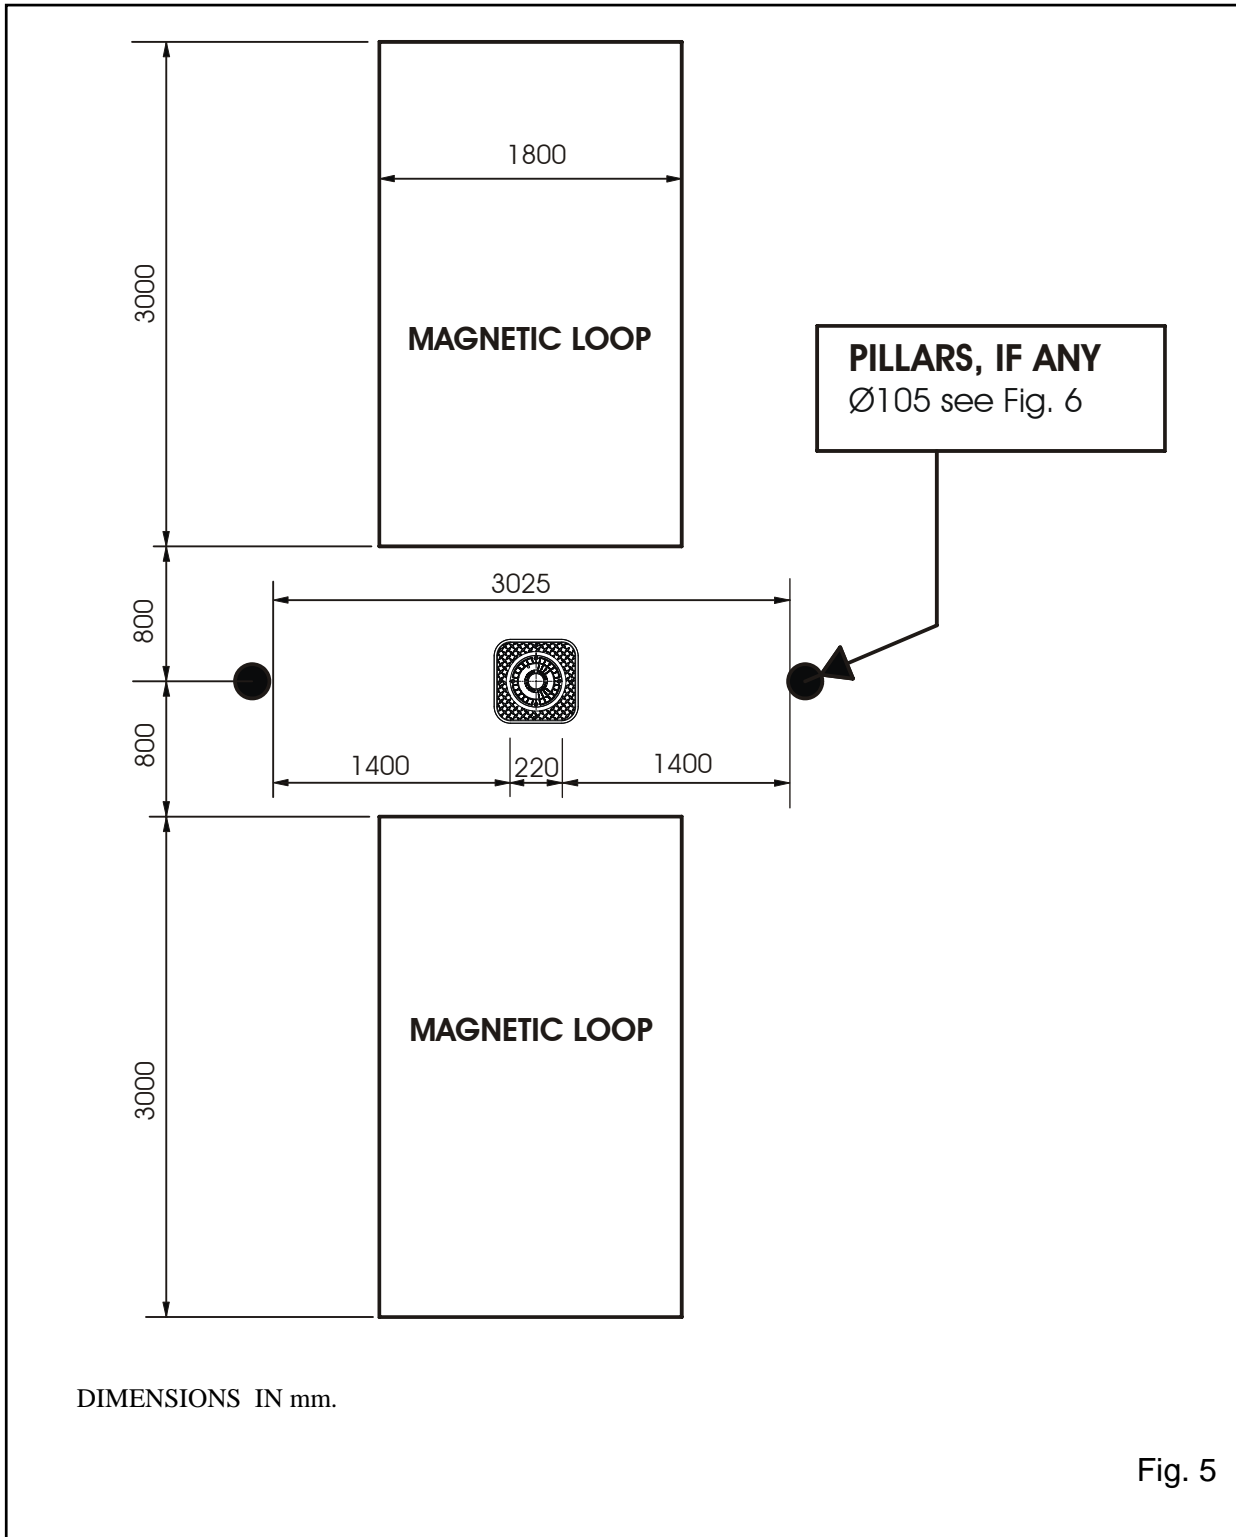

Fig. 5
3. **Fig. 5** shows an installation with a single traffic bollard and two magnetic loops to detect vehicle transit.